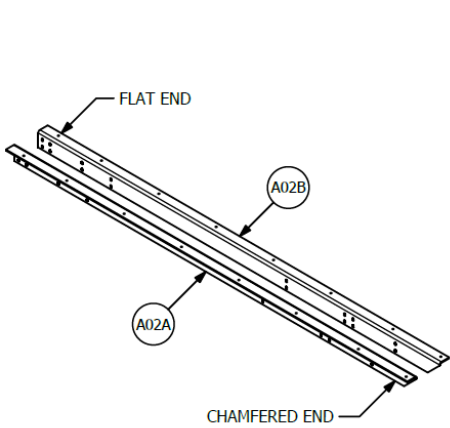

FIG 05: TABLE RAIL PAIR
1. Layout Table Rails (A02A and A02B) side-by-side, so that you end up with 2 pairs. See Figure 05.